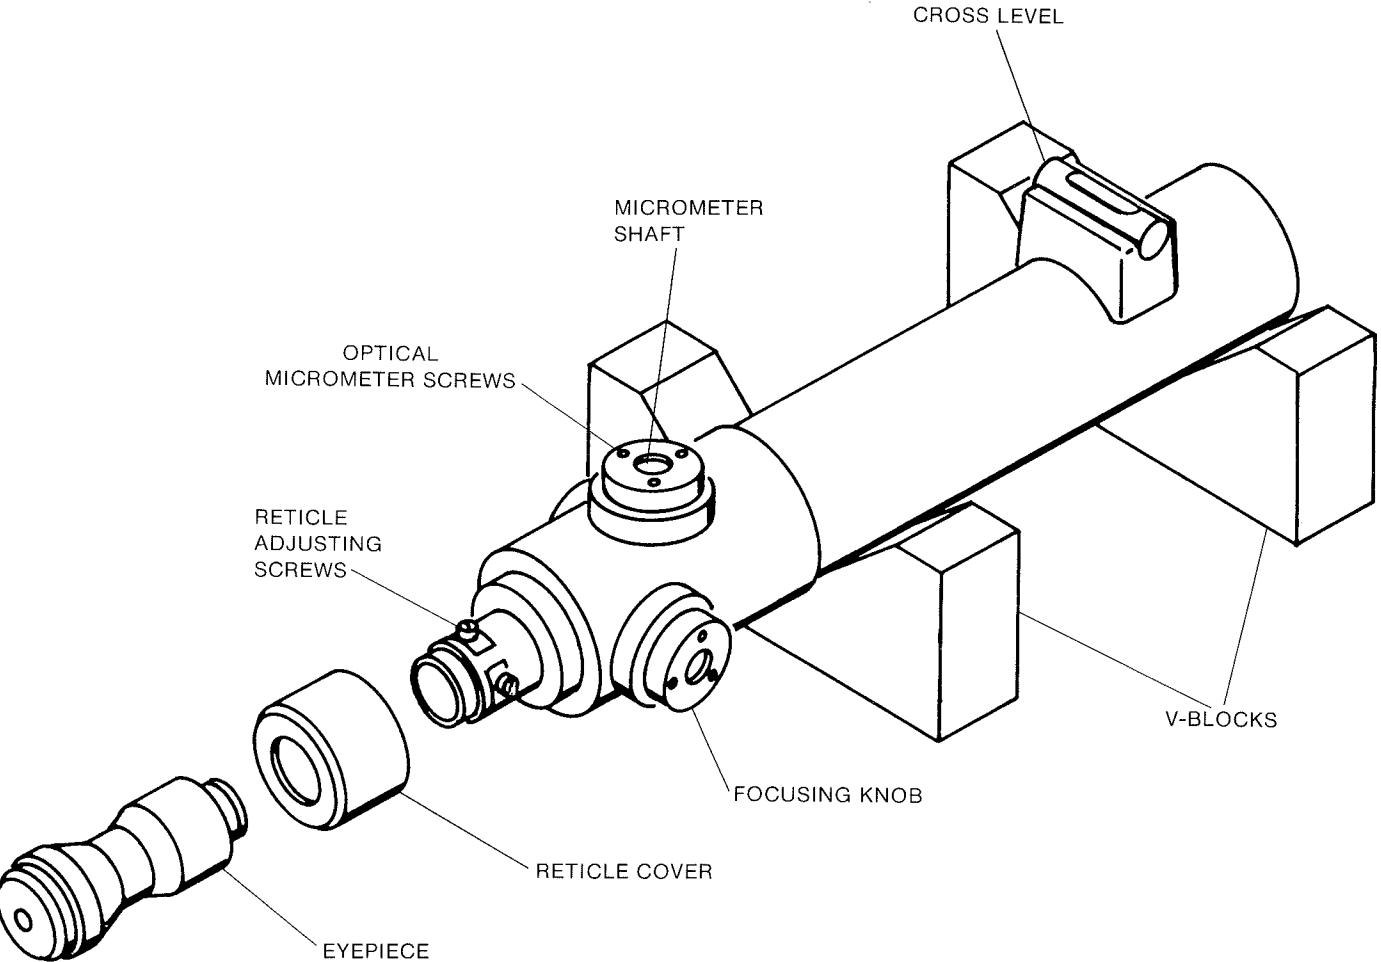

Figure 3-1. Alignment Telescope Prepared for Adjustment
b. Unscrew the eyepiece and reticle cover (Figure 3-1). Reinstall the eyepiece.
- (1) Adjust one of the micrometer knobs on the telescope to either extreme position.
- (2) Aim the telescope at a well defined target.
- (3) Rotate the same micrometer knob to its other extreme position. The cross line should remain on the target. If not, perform the following adjustments.
b. Adjustment 1b. (See Figure 3-1.)
- (1) Unscrew the eyepiece and reticle cover from the telescope. Reinstall the eyepiece.
- (2) Four reticle adjusting screws are now exposed. Loosen two adjacent adjusting screws. Tap the screws gently to make them slide around the telescope until the cross line remains on the target throughout the full micrometer movement.
- (3) Tighten the reticle adjusting screws that were loosened.
- (4) **Repeat Test 1b.**